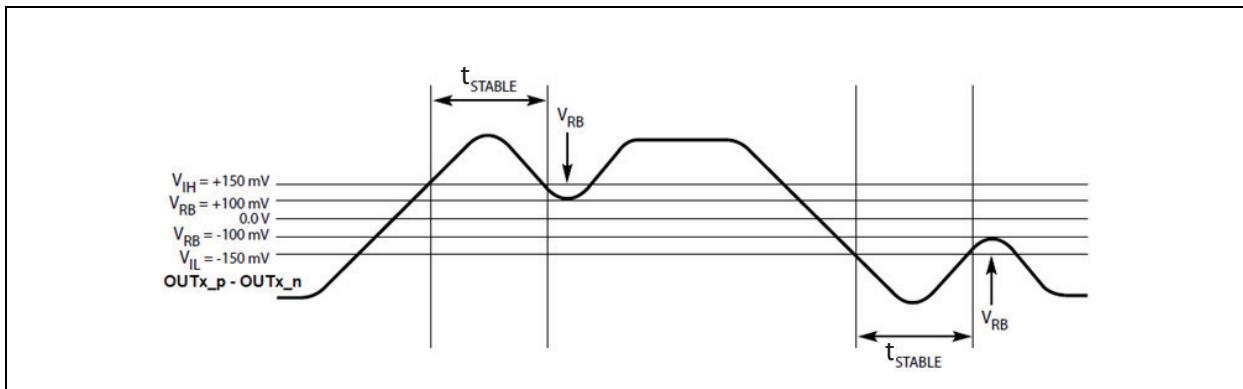

FIGURE 1-6: Differential Measurement Points for Ringback.
- 10:** t_{STABLE} is the time the differential clock must maintain a minimum $\pm 150 \text{ mV}$ differential voltage after rising/falling edges before it is allowed to droop back into the $V_{RB} \pm 100 \text{ mV}$ differential range. See Figure 1-6.